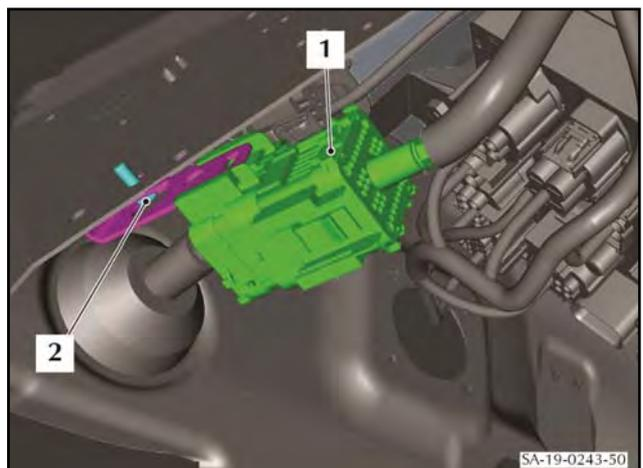

Figure 68
97. Install the screw (2) to attach the bracket for the harness electrical connector (1) to the body (refer to Figure 68).